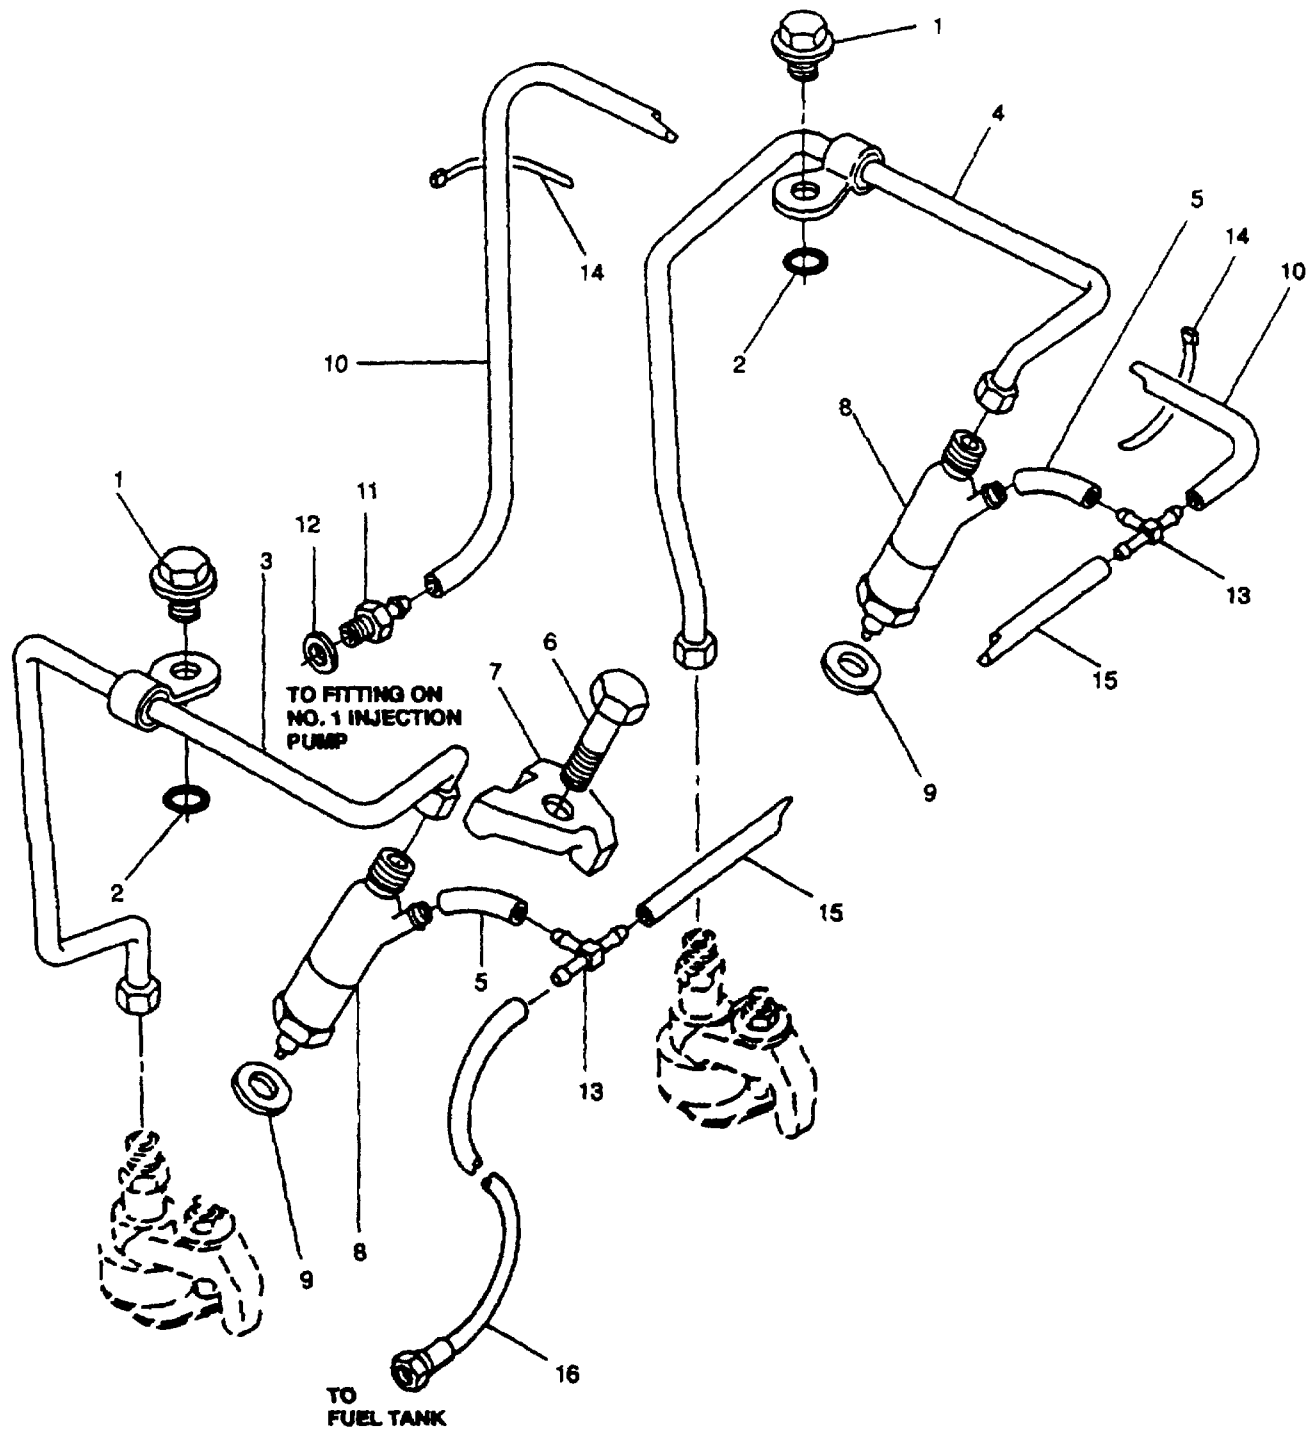

FIGURE 3-13. Fuel Injector, Fuel Injector Pipes, and Fuel Return Line
- a. Disconnect and remove fuel injector pipe (3 or 4, FIGURE 3-13). Refer to paragraph 3-18.1.
- b. Disconnect fuel return hose (5) from injector (8).
- c. Remove bolt (6) securing clamp (7); remove clamp.
- d. Remove fuel injector (8) from cylinder head.
- e. Remove injector copper sealing washer (9) from cylinder head taking care not to damage seating area.
If injector sealing washer (9, FIGURE 3-13) has been used more than once it will become compressed and may adversely affect combustion. It is recommended that new injector sealing washers are installed on assembly. Ensure that two washers are not installed to an injector.
- a. Disconnect hose (10, FIGURE 3-13) from union (11).
- b. Remove union (11) and washer (12) from end of fuel supply hose.
- c. Disconnect hose (10) from tee fitting (13). Remove tiedown straps (14) and remove hose (10). Discard tiedown straps.
- d. Remove hoses (5) from fuel injectors (8) and tee fittings (13).
- e. Remove tee fittings (13) from hose (15); remove hose (15).
- f. Disconnect hose (16) from tee fitting (13); remove hose (16).
- g. Loosen nuts on fuel injector pipes (3 and 4) at fuel injection pump and fuel injector (8).
- h. Remove cylinder head cover nuts (1) securing fuel injector pipes (3 and 4) dips; remove pipes (3 and 4) if damaged, replace preformed packing (2).
- b. Connect fuel injector pipes (3 and 4, FIGURE 3-13) to fuel injectors (8) and fuel injection pumps. Tighten nuts finger tight.
- c. Secure fuel injector pipe clips using cylinder head cover nuts (1). Tighten nuts to 78 in-lbs (8.8 Nm).
- d. Starting at fuel injector (8), tighten fuel injector pipes (3 and 4) nuts to 21.0 ft-lbs (28.5 Nm).
- e. Install tee fitting (13) into hose (16).
- f. Install tee fittings (13) in hose (15).
- g. Connect hoses (5) to tee fittings (13) and to fuel injectors (8).
- h. Connect hose (10) to tee fitting (13) and secure hose (10) with new tiedown straps (14).
- i. Install union (11) and washer (12) to end of fuel supply hose.
- j. Connect hose (10) to union (11).